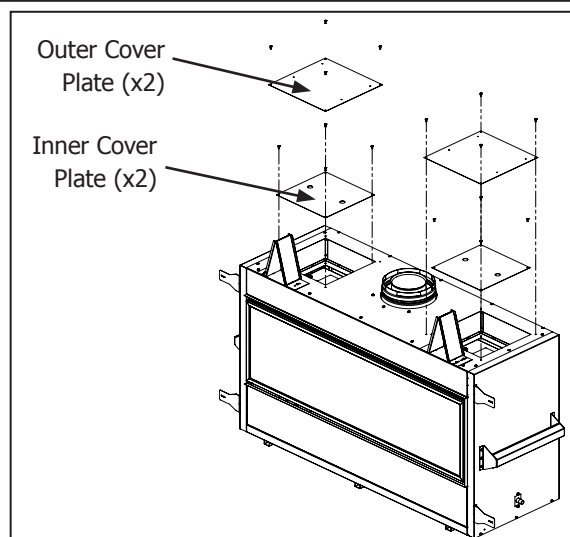

Figure 11. Cover Plate Removal
Step 1: Using a T20 screwdriver, remove the inner and outer cover plates from the fireplace as shown (Figure 11). Each cover plate has four (4) mounting screws. Both sets of cover plates are no longer required and can be recycled. Retain eight (8) of the removed mounting screws to secure the duct collars.